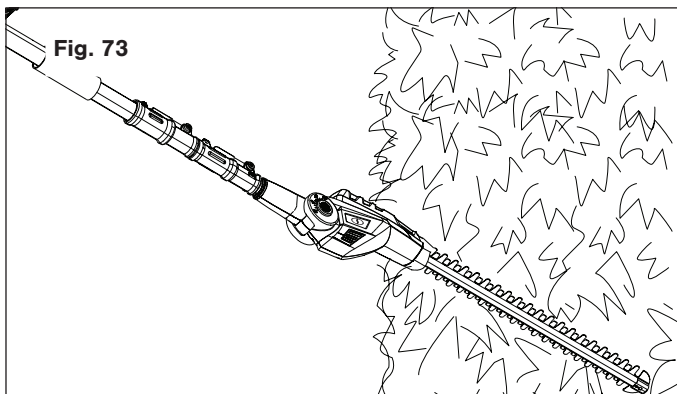

Fig. 73
3. To use pole hedge trimmer for trimming low-lying foliage or ground cover, hold the pole hedge trimmer at the position as shown below (Fig. 73).